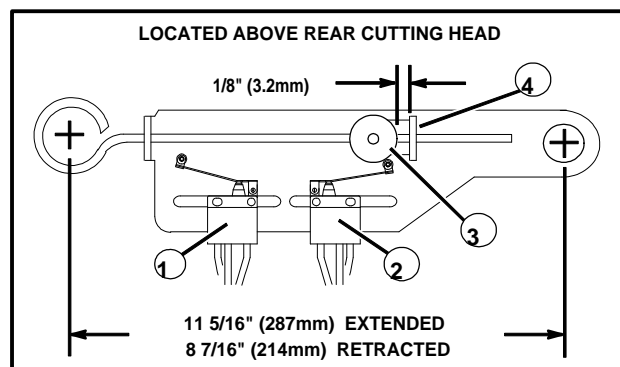

Figure 24
2. Once you have completed setting the sequence control switch move to the limit switches above the rear head (See Fig. 24).
3. With the heads lowered and cylinders fully retracted check the dimension of 1/8" (3.2mm) between the cam and ear. While they are still retracted, check the dimension of 8 7/16" (214mm) from pin to pin (See Fig. 24).
- BE SURE the retract switch opens at 8 7/16" (214mm) measured from pin to pin. If it does not open, hydraulic pressure will continue and damage the system. From pin to pin check the dimension of 11 5/16" (287mm) when the heads are raised and the cylinders are fully extended (See Fig. 24).